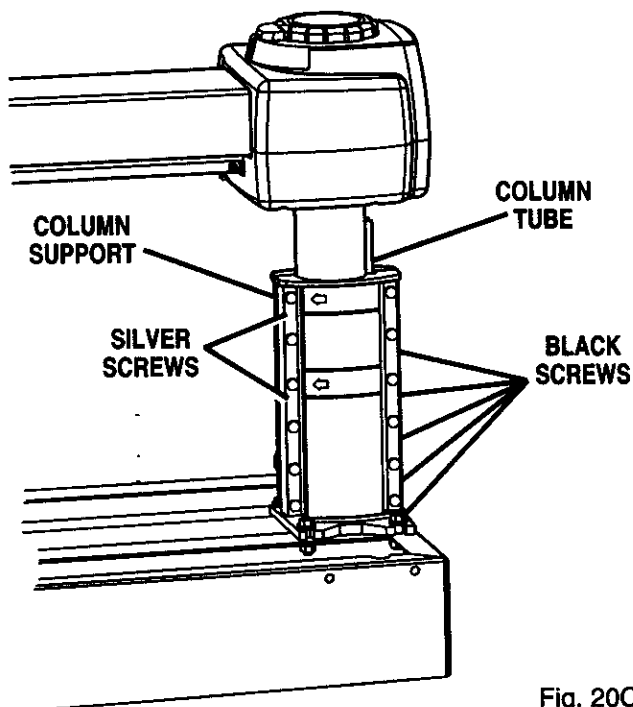

Fig. 20C
- **Elevation Adjustment:** If the elevation check did not show any play between the column tube and the support, go to the rotation adjustment. Otherwise, raise and lower the arm with the elevating handwheel. Tighten the black screws on the right side of the column support by 1/16th to 1/8th of a turn. Tighten the two silver screws on the left side slightly more. You will need two 1/2 in. wrenches or sockets. Turn the elevating handwheel again. If the column tube binds, loosen the silver and black screws and turn the handwheel again. See *Figure 20C*.